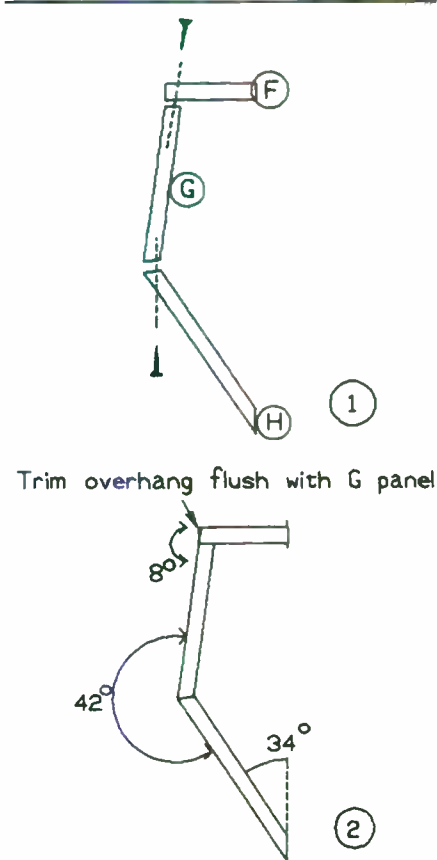

FIGURE 6: Midrange chamber assembly.
6. Drill two screw holes through piece F and into the edge of piece G as shown in *Fig. 6*. Use adjustable clamps to hold the pieces or secure one piece in a bench vise. Using a drill guide, set the angle by eye. A tight-fitting nail in the first hole will keep the pieces aligned while you drill the second hole. Prepare piece H of the midrange chamber as above.
10. You must trim the butt edge of F facing the enclosure so it's in the same plane as G and looks similar to *Photo 3* (See also *Fig. 6*). Take the excess off F with a block plane or a rasp, and clean up with files and sandpaper. Lastly, slightly round the sharp edges facing the enclosure.